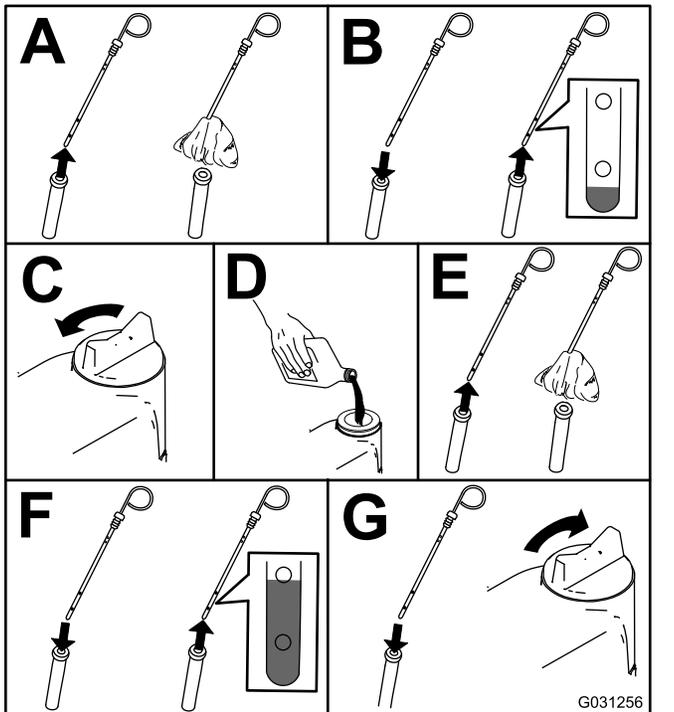

Figure 76
2. Check the engine-oil level (Figure 76).